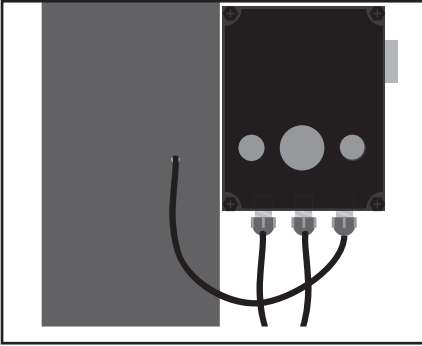

Fig. 20
1. Lead long cable control panel through hole to inside column (Fig. 20).